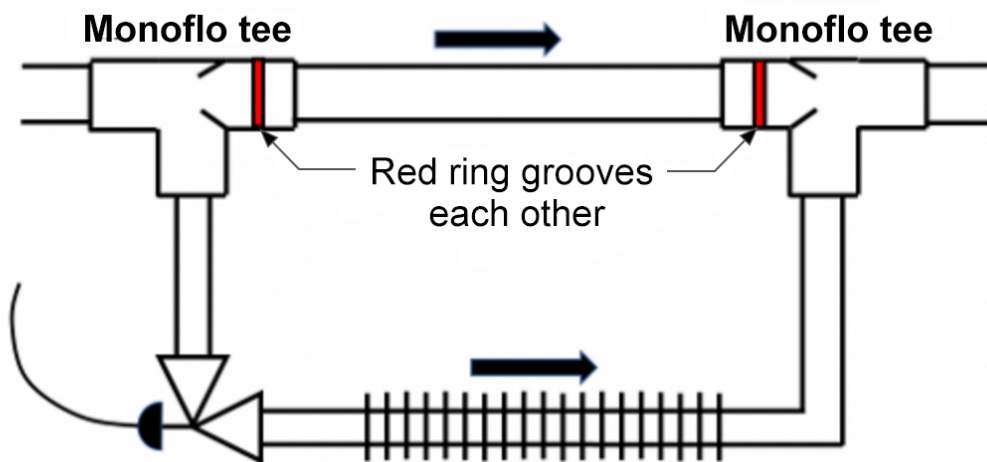

Figure 6 Down fed heat transfer unit. (Greg Wirachowsky/ Skilled Trades BC, 2021) Used with permission.
- **Figure 6** Quick fill bypass arrangement by TRU Open Press. CC BY-NC-SA (<https://creativecommons.org/licenses/by-nc-sa/4.0/deed.en>)
Downfed heat transfer units are located below the supply mains and require more definite flow diversion to make heated water fall below the main (Figure 6). Monoflo tees are installed on both the supply and return connections, with the red groove rings on the tees facing each other. The Monoflo tee on the supply acts to divert water flow through the branch outlet.